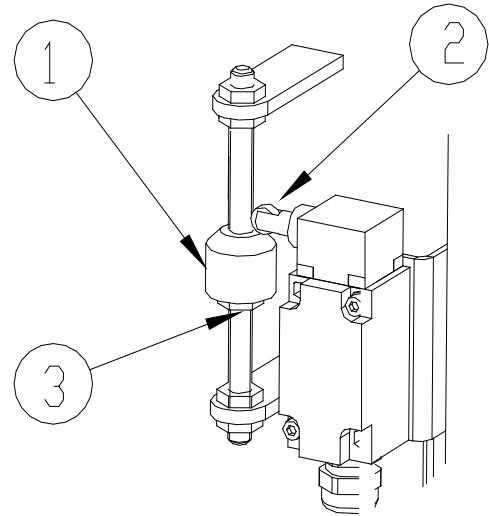

Fig.K.10 Overload cam and limit switch
- 3 Loosen the overload cams (1 fig.K.10) so that the corresponding limit switches (2 fig.K.10) are not activated on both drive unit.